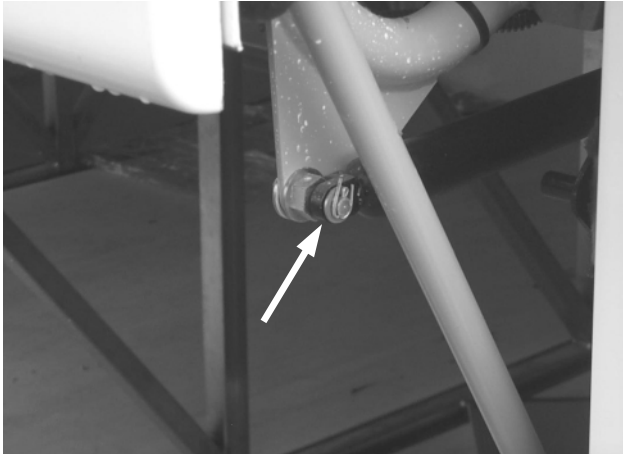

Figure 6: Cotter pin
If the pivot remains steady (no movement), extract the cotter pin and washer and withdraw the strut from the pivot (see Figure 6).
- 5) With the residual gas pressure vented from the spring, extract the cotter pin and washer and withdraw the spring from the pivot (see Figure 6).